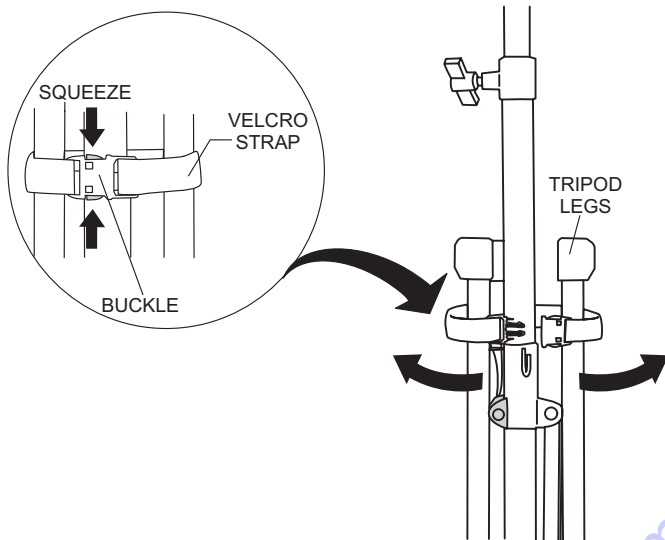
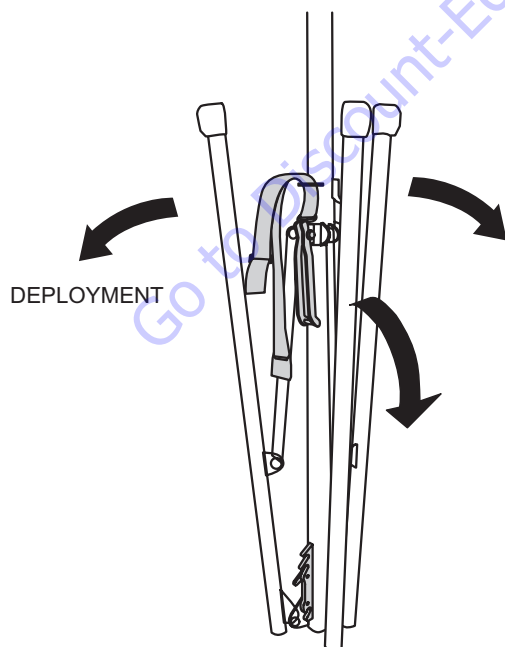

Figure 5. Velcro Strap (Open)
Figure 6. Tripod Deployment
2. Remove tripod from its carrying case. The tripod legs are secured by a black velcro strap (Figure 5). Squeeze both tabs on each side of buckle to unlock strap and allow tripod legs (Figure 6) to be deployed.